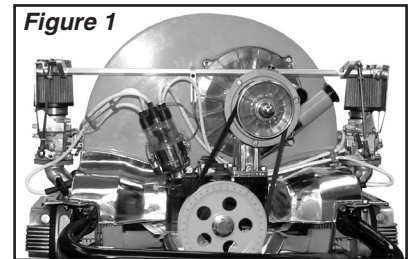

Figure 1
2. Slide the center pull-lever and the left and right extension arms onto the hex bar so there is approximately 60° between the centerline of the arms compared to the center pull lever (See Figure 1). Install retention hardware onto the parts, but **DO NOT** fully tighten at this time. Install the jam nuts onto the ball-ends and thread the ball-ends into each end of the hex bar.